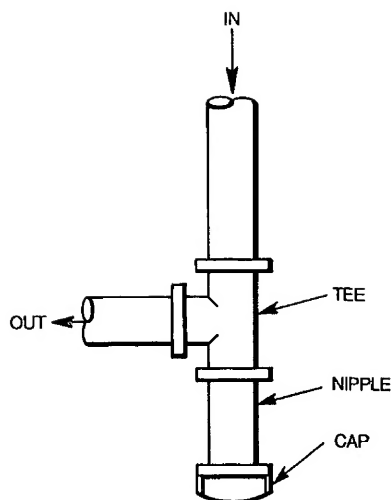

Fig. 11 – Sediment Trap
4. Install sediment trap in riser leading to heating section on natural and LP gas units, per Fig. 11. This drip leg functions as a trap for dirt and condensate.